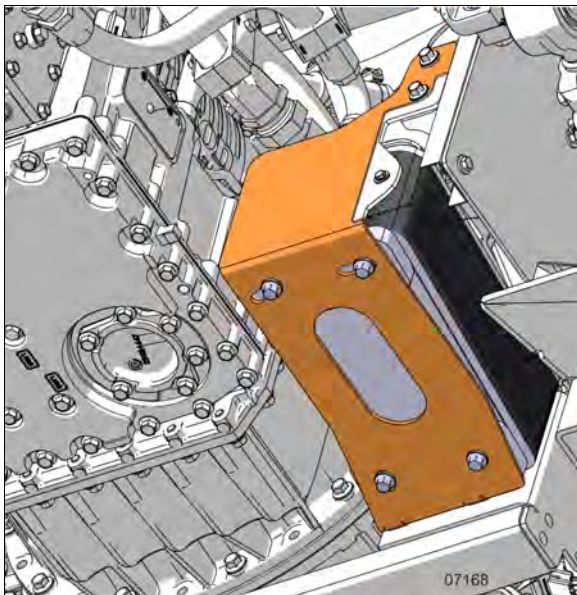

FIGURE 17: NORMAL OIL COOLER POSITION
2. Reposition the oil filter as shown in Figure 17.